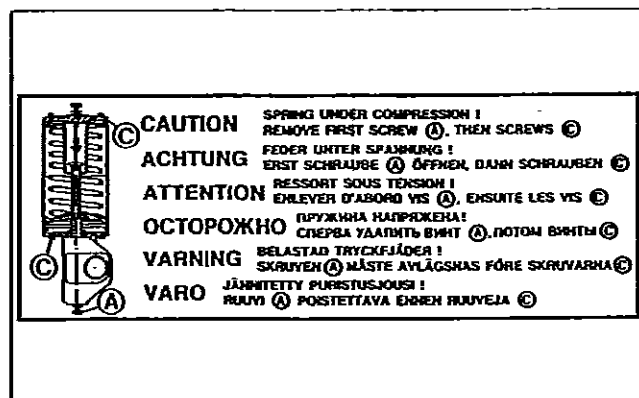

Fig. 17. BJA actuator warning plate
The cylinder has a warning plate (43), see fig 17. When servicing the unit, check that the plate is in place and legible. Also check that the cylinder has the arrow sticker indicating the spring operating direction.